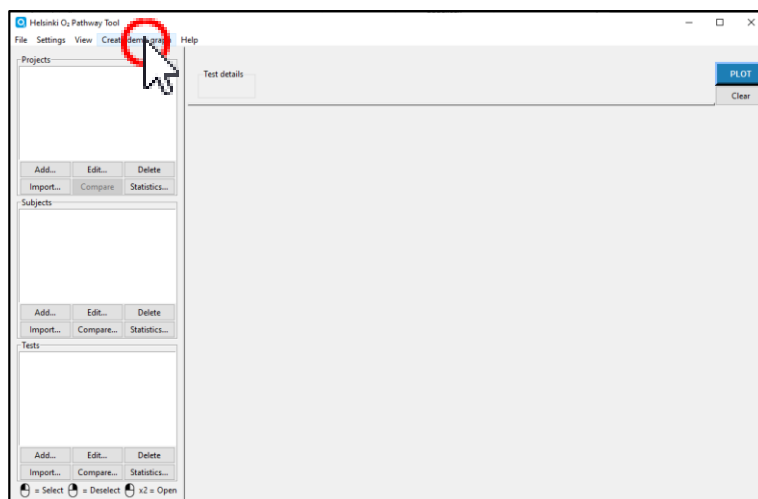

Figure 31
2. Click the “Create demo graph” option from the main menu bar (figure 31).